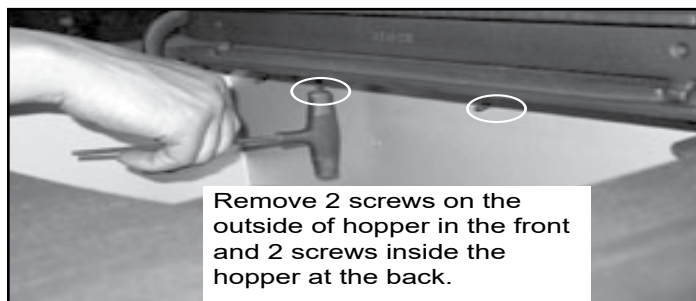

Figure 26.1
4. Remove cast top from appliance. Two fasteners are located outside the hopper on each side. The other two are located in the hopper along the back (**Figure 26.1**). Remove the rear screen of the appliance (be sure the vent is disconnected) by removing the seven screws. Lift slightly upwards as to not damage the hopper switch and set aside.